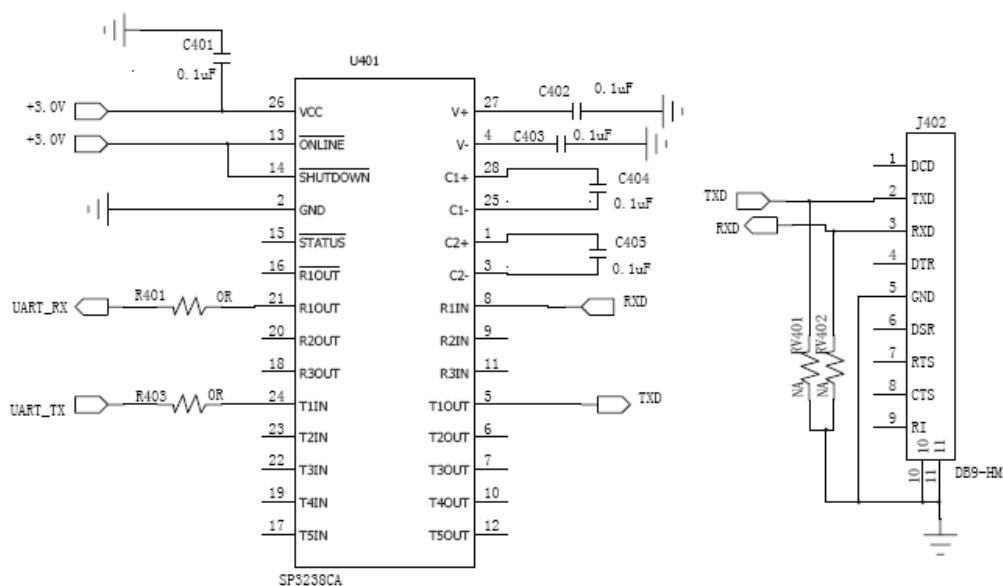

Figure 2-11 The reference circuit of UART interface
The reference circuit of UART interface is shown in Figure 2-11.
- 1) As the UART interface can only supply TTL level while the PC serial port is RS232 level, it requires to use level conversion device. The reference device is SP3238EEA which provided by SIPEX, as shown in Figure 2-11. J401 is a 9 pin serial port socket which can connect to PC with serial cable.
- 2) To avoid static electricity, it is recommended to use the ESD protection device for the signal line of the UART socket. Just like the varistors RV401, RV402, RV403, RV404 and RV405 in Figure 2-11 which should be close to the socket as possible.